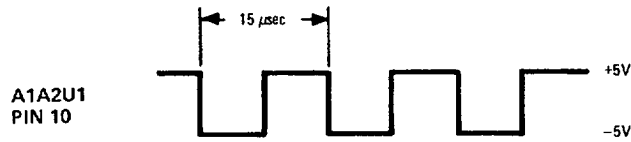

Figure 8-7. A1A2U1 Clock
To check the digit displays, jumper A1A2TP2 (LT) to ground. All segments of all four numeric displays (A2DS1 through A2DS4) should light. To troubleshoot DPM Driver A1A2, check for proper clock and outputs at A1A2U1 (see Figures 8-7, 8-8, and 8-9 and Table 8-3).